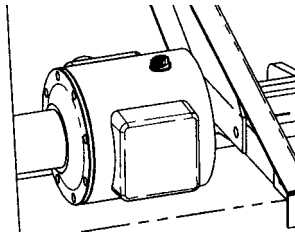

Fig. 3
2. The gearbox filled up to the level mark in the inside rod (A) (fig. 3). Capacity 1,5 l.